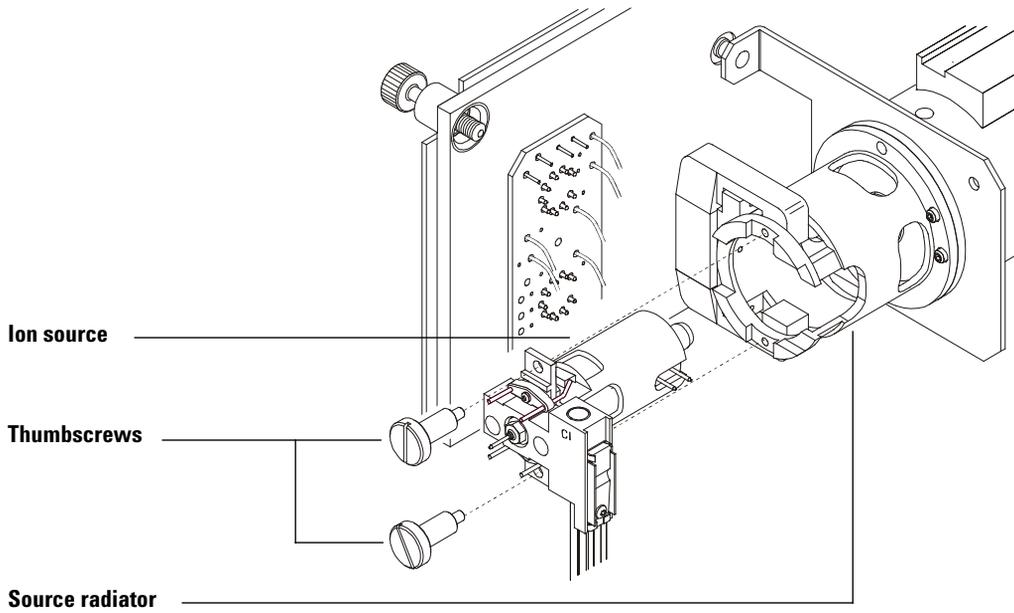

Figure 32 Installing the CI ion source
- 4 Reinstall the thumbscrews (Figure 32).